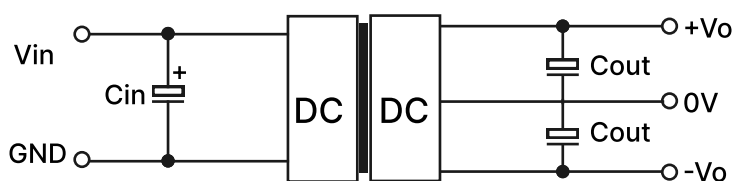

Figure 1: Application circuit
1. Typical application: If further reduction of input and output ripple is required, a capacitor Filter network can be connected at the input and output ends. The application circuit is shown in Figure 1. However, suitable Filter capacitors should be selected. If the capacitance is too large, it may cause overcurrent or poor start up of the power supply. For each output, while ensuring safe and reliable operation, the recommended capacitance load values are shown in Table 1.